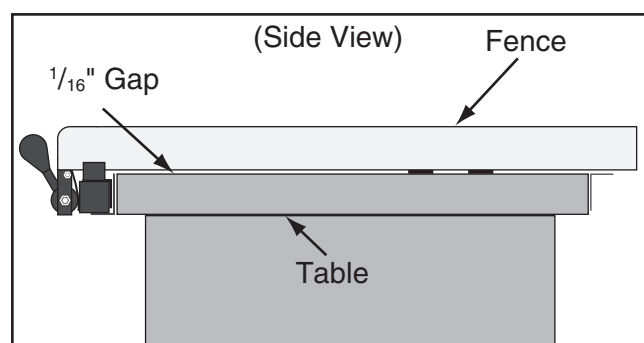

Figure 115. Gap between fence and table approximately $\frac{1}{16}$ " from to back.
- If the gap is approximately $\frac{1}{16}$ " and even from the front of the table to the back (see **Figure 115**), then no additional adjustments are necessary. Proceed to **Clamping Pressure and Parallelism**.
4. Loosen the rail mounting bolts and adjust the rails as needed until the fence rides smoothly, the gap is approximately $\frac{1}{16}$ ", and is even from front to back (see **Figure 115**).
—If the fence drags across the table, then loosen the rail mounting bolts and adjust the rails just enough so the gap between the fence and the table is even from front to back (see **Figure 115** on **Page 66**). Tighten the rail mounting bolts.